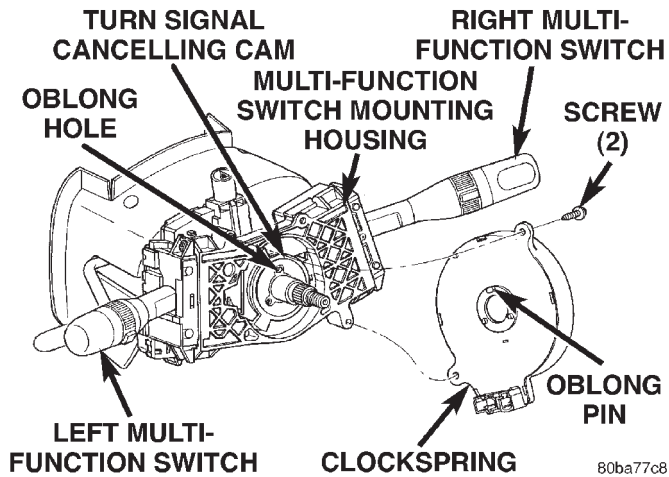

Fig. 16 Clockspring Remove/Install
(9) Remove the two screws that secure the clockspring case to the multi-function switch mounting housing (Fig. 16).
(10) Remove the clockspring from the steering column by sliding the clockspring hub up and off of the steering column upper shaft. The clockspring cannot be repaired. It must be replaced if faulty or damaged, or if the driver side airbag has been deployed.